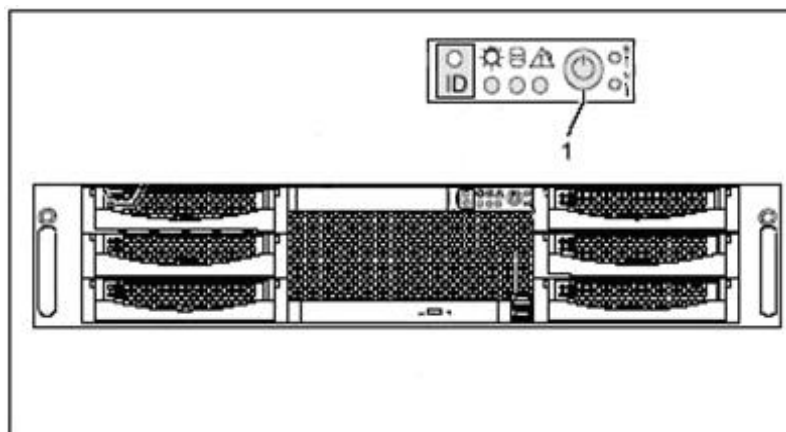

Fig. 19: Front of the ISIS
- Switch on ISIS by pressing the button (1) (see Fig. 19)
- Switch off the server by pressing the button (1) (see Fig. 19) for at least 3 seconds.
- Switch on the server again by pressing the button (1) (see Fig. 19)